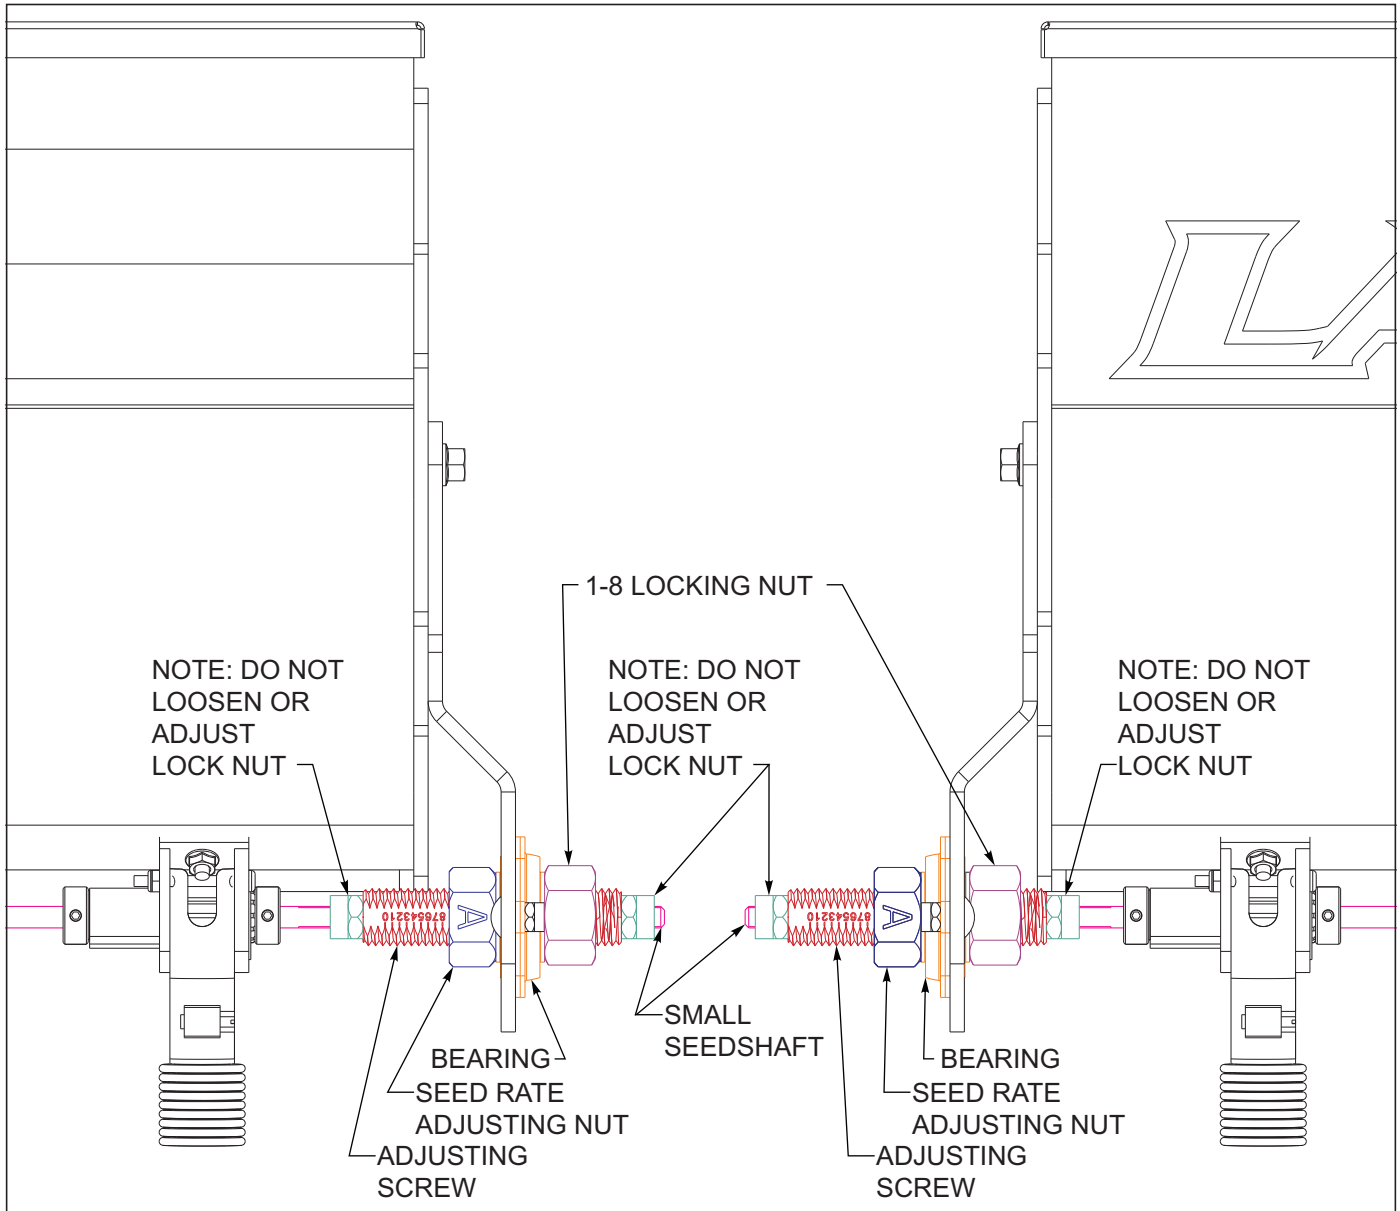

Figure 4-19: Small Seed Rate Adjustment
- c. Loosen the large locking nut on the right side of the seed shaft bearing **See Figure 4-19**.